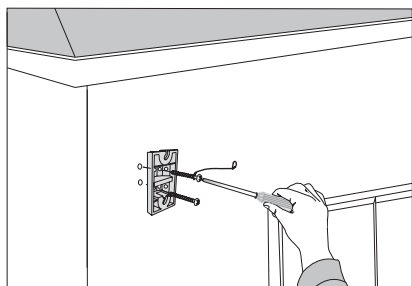

Fig. 3a
1. Using appropriate screws/mounting hardware (*not included*), mount the bracket with the supplied safety strap on the wall at the desired location (Fig. 3a) and at the desired angle. Make sure the bracket is straight.